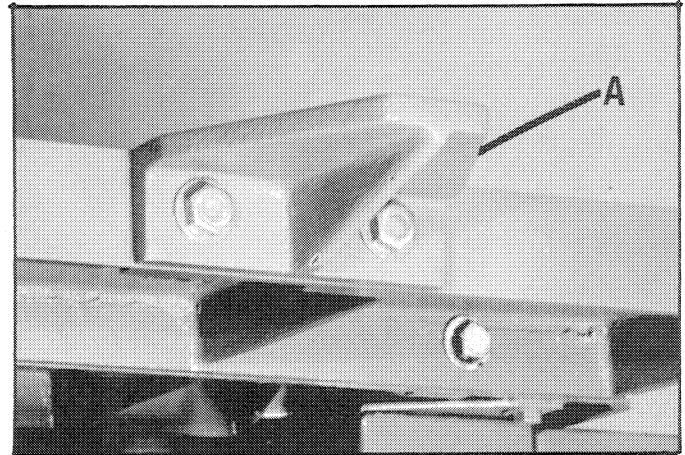

Fig. 13
Fig. 13 illustrates the support bracket (A) mounted to the right hand extension wing.